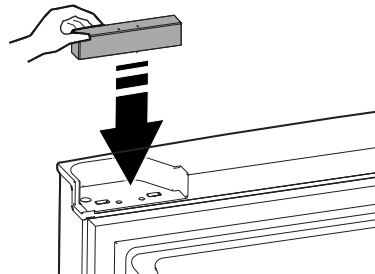

Figure 23
44. Snap the reed switch magnet into place in the corner of the refrigerator door (see Figure 23).